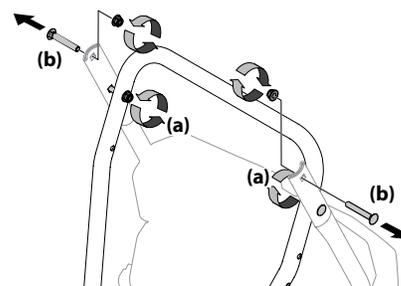
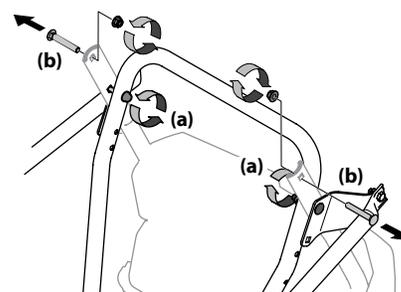

Figure 2-1
Figure 2-2
2. Loosen the top two nuts (a) securing the upper and lower handle and remove the two carriage screws (b) from the upper handle and set aside as shown in Figure 2-1 or Figure 2-2 for units with side supports.